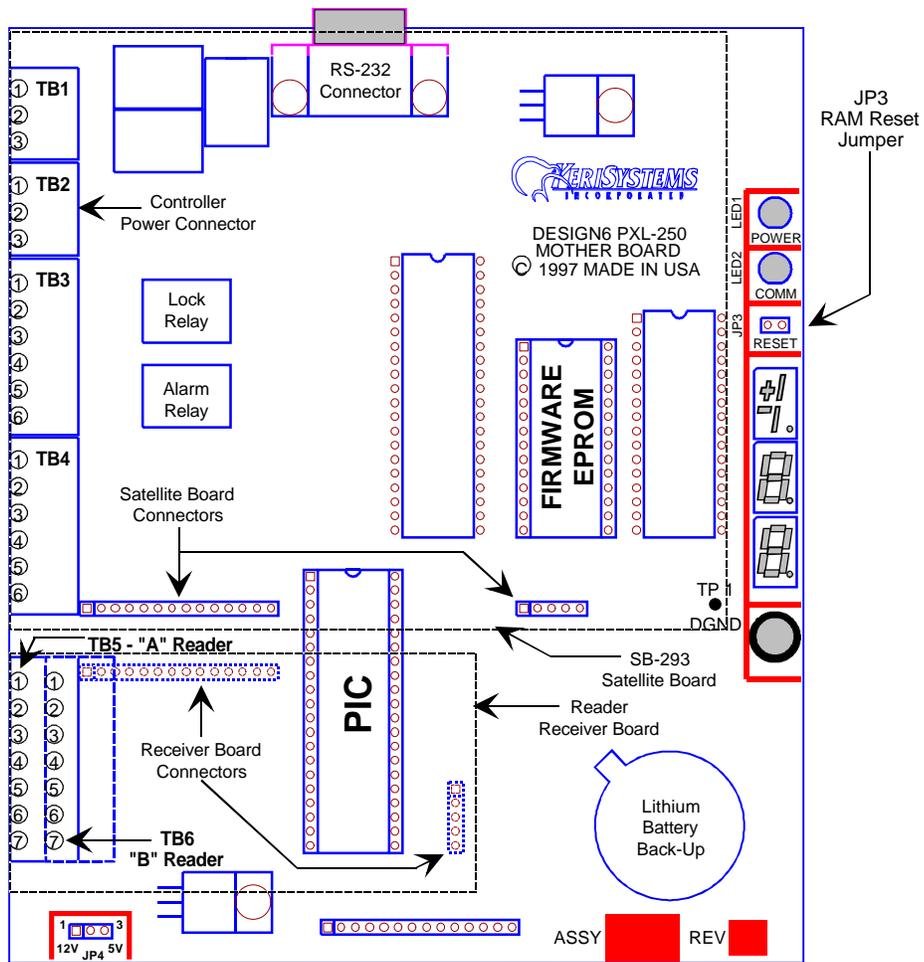

Figure 1 – Location of Critical Components for EPROM or PIC Installations
Refer to Figures 1 through 3 when using these instructions.
1. Using Figure 1 as a reference, locate the EPROM.
1. Using Figure 1 as a reference, locate the PIC.
2. Insert a jumper across pins 1 and 2 of JP3 (see Figure 1).